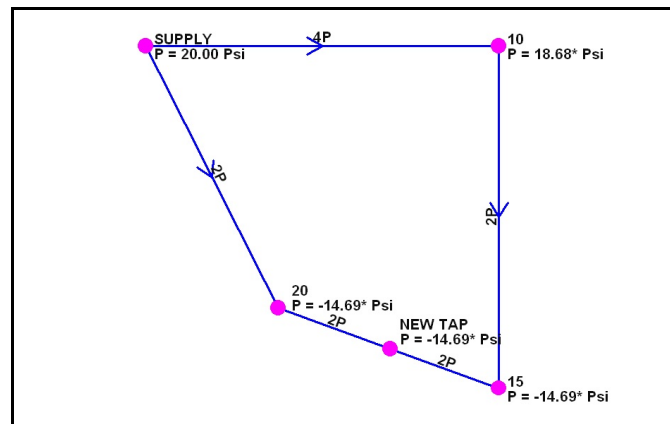

Figure 4
- In Figure 4, notice that some of the pressure values are negative (less than zero). This indicates that the system has "run-out-of-gas". In other words, the increased demand caused by the new load, is greater than the system's capacity.